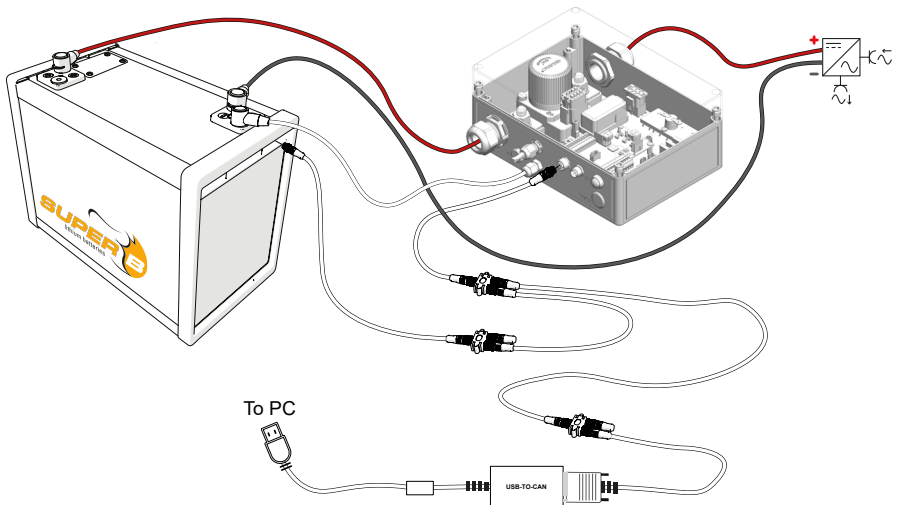

Figure 10. Setup for configuration using the Be in Charge Monitoring Kit
2. Select the 'Scan' button to start scanning for devices. You can also select the scan/refresh icon in the top-left corner (Figure 10).